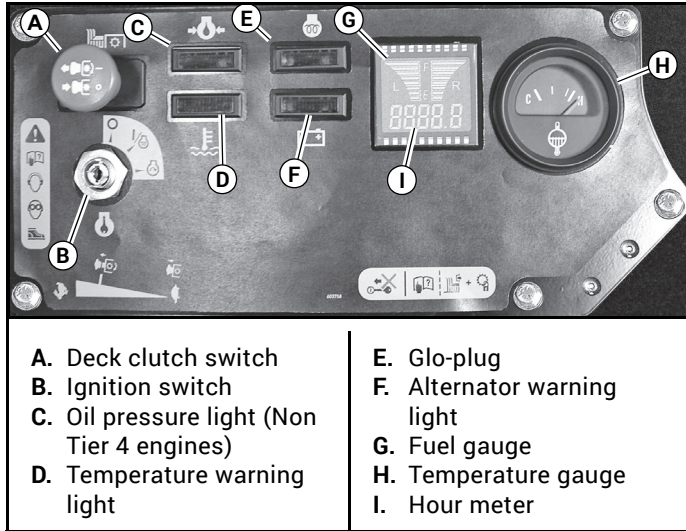
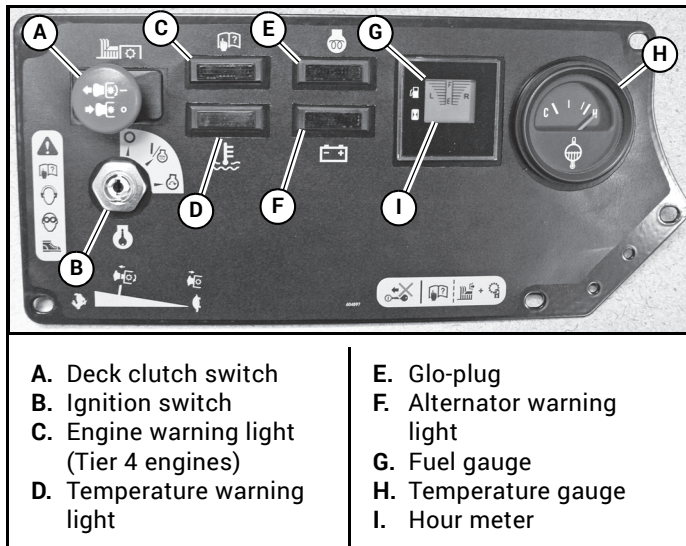
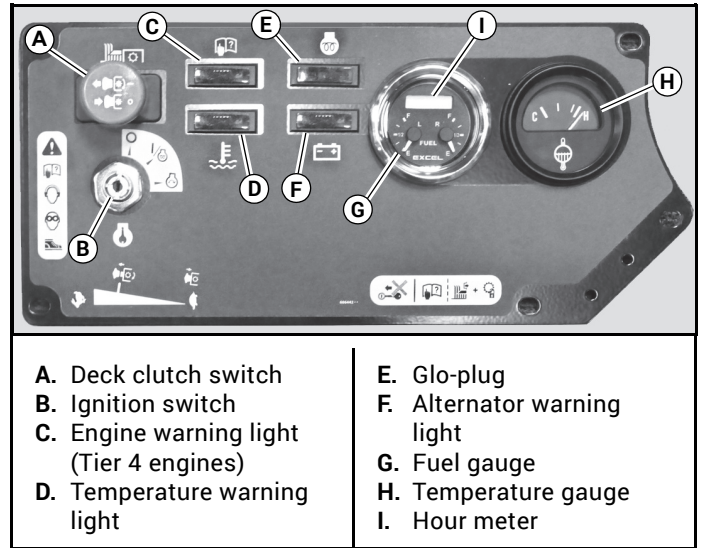
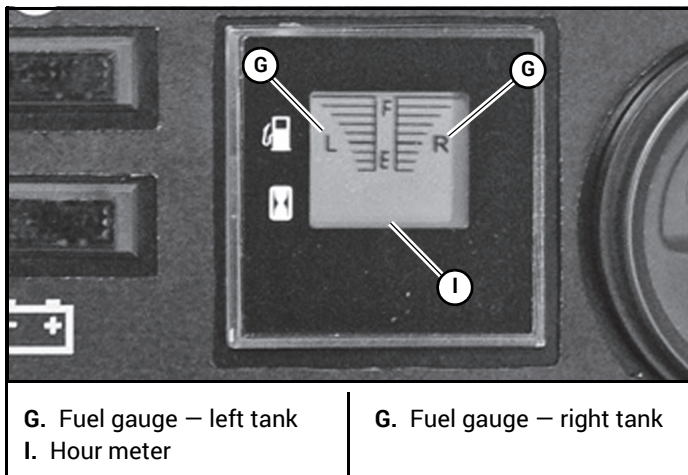

Figure 3-1
Figure 3-2
Figure 3-3
Figure 3-4
A. Deck clutch switch (Figure 3-1, Figure 3-2, Figure 3-3) – this switch engages the deck. Pull the switch up to engage and push switch down to disengage the clutch.
B. Ignition switch (Figure 3-1, Figure 3-2, Figure 3-3) – a three position switch: “OFF”, “PREHEAT/RUN”, and “START”. With key inserted, rotate it clockwise to “PREHEAT/RUN” position. After pre-heat has occurred, rotate the key to the “START” position; release key when engine starts, and switch will automatically return to the “RUN” position.
C. Oil pressure light (Figure 3-1) – (Non Tier 4 engines only) this light comes on when the ignition switch is placed in the RUN position and stays lit until the engine is running and a safe oil pressure is developed. If light comes on during operation, shut engine off immediately and locate and correct the problem.
Engine warning light (Figure 3-2, Figure 3-3,) – (Tier 4 engines only) This light will flash once during engine starting to show that the system is operating properly. This light will also begin to flash an error code when a problem is detected by the engine controller. Refer to the Hustler® Z Diesel General Service Manual (P/N 115164) for additional information.
D. Temperature warning light (Figure 3-1, Figure 3-2, Figure 3-3) – this light will come on when the engine coolant temperature reaches an unsafe level during operation. If light comes on, shut down the machine as soon as possible. Never risk continued operation when light remains on; high temperatures can severely damage the engine.
E. Glo-plug light (Figure 3-1, Figure 3-2, Figure 3-3) – this light comes on when the ignition switch is turned to the “Pre-Heat/Run” position and held. It shows that power is going to the glo-plugs.
F. **Alternator warning light** (Figure 3-1, Figure 3-2, Figure 3-3) – this light comes on when the ignition switch is placed in the RUN position and stays lit until the engine is running and the battery is being charged. If light comes on during operation, shut engine off immediately, locate and correct the problem.
G. **Fuel tank gauge** (Figure 3-1, Figure 3-2, Figure 3-3, Figure 3-4, & Figure 3-5) – This gauge shows the fuel level for each fuel tank. The right gauge indicates the fuel level in the right fuel tank and the left gauge indicates the fuel level in the left fuel tank.
H. **Temperature gauge and alarm** (Figure 3-1, Figure 3-2, Figure 3-3) – this gauge reflects the engine coolant temperature. If the coolant reaches an unsafe level during operation, shut down the machine as soon as possible.
I. **Electronic hour meter** (Figure 3-1, Figure 3-2, Figure 3-3) – registers 1/10 hour increments up to 9,999.9 total hours. Connected to the ignition switch, the meter records the accumulative time while the ignition key is switched to the RUN position.